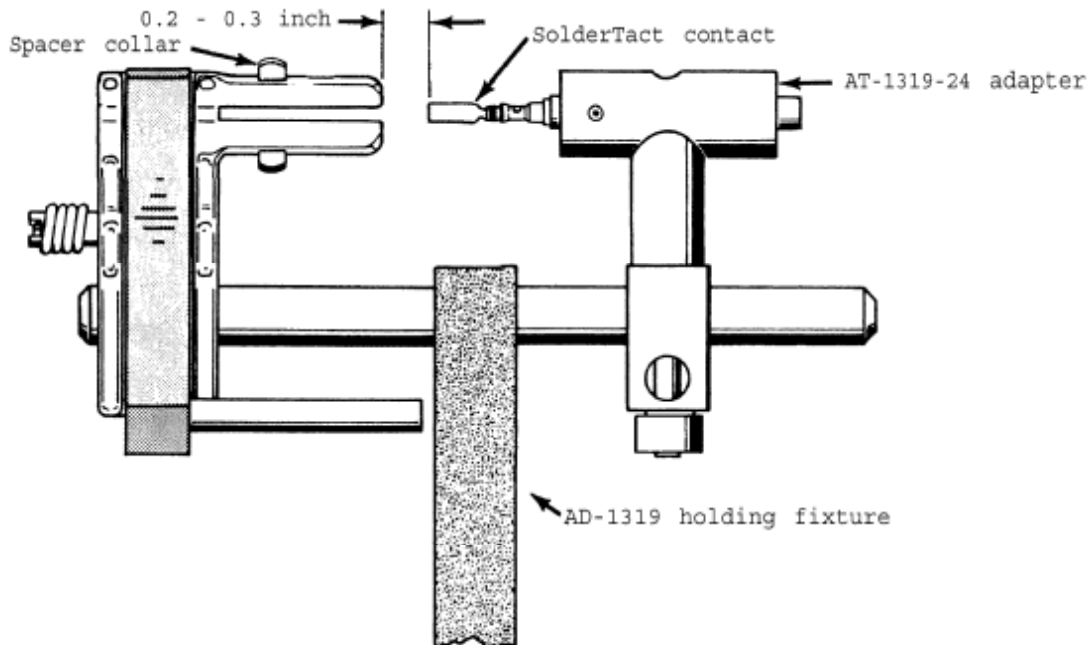

Figure 6-1. Setup Dimensions for AD-1319 Holding Fixture
1. Install the AT-1319-24 adapter onto the AD-1319 holding fixture (See Figure 6-1).
2. Insert a contact in the adapter and set up the dimensions as shown in Figure 6-1.